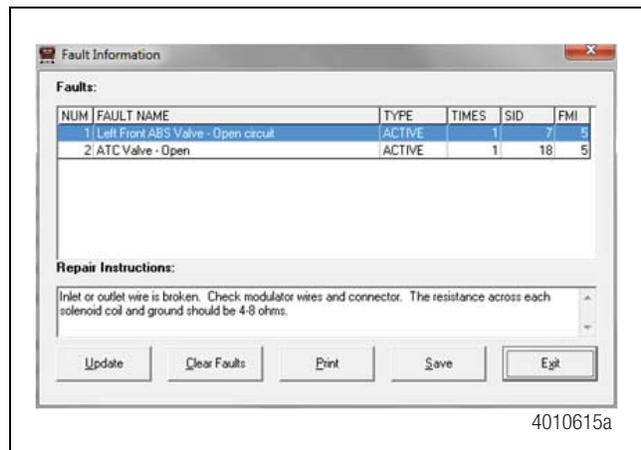
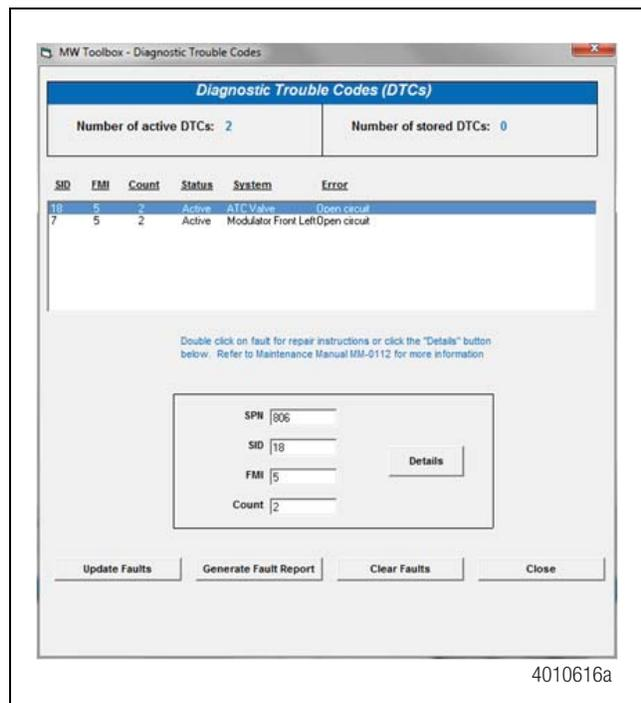

Figure 3.9
Figure 3.10
- From the pull-down menu, select **Faults** or **Diagnostic Trouble Codes**. This will open the Fault Information screen. Figure 3.9 and Figure 3.10.